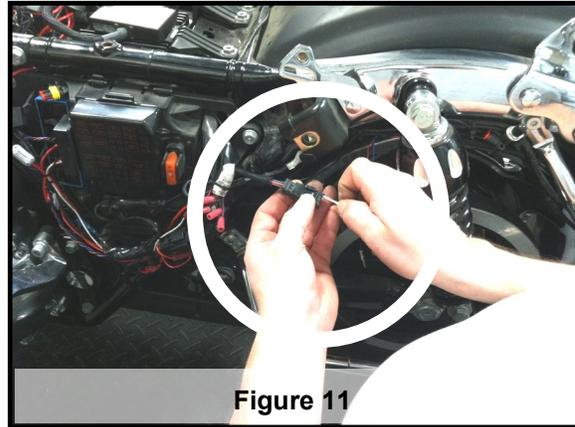

Figure 11
26. Using the provided 3 pin Female connector, attach the connector to the male connector on the bike. Make note of the orientation of the wire colors, then unplug the connector and insert male pins into the supplied connector making sure red goes to red, blue goes to blue and black goes to black. Note that the pins only go in one way. Once the pins are inserted into the connector, push down the top cover on the connector. (See Figure 11)